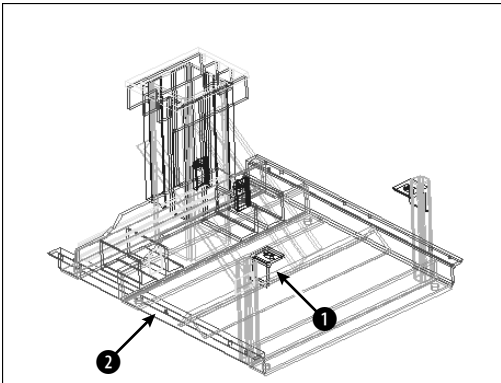

Figure 28-16: The DWF file as seen in Autodesk DWF Viewer.
2. Autodesk DWF Viewer opens automatically and displays the DWF file created in the previous Step-by-Step exercise. From the List tab in the left pane of the Autodesk DWF Viewer, choose the second sheet, labeled (2)ab28-01-Iso (11x8.5 in), as shown in Figure 28-16.
- 3. Press Ctrl and click **1** in Figure 28-16. The text shown in Figure 28-17 opens in a new Internet Explorer window. (You may have to minimize Autodesk DWF Viewer to see the text.) This comes from an Excel spreadsheet saved in text format.
- 5. Press Ctrl and click **2** in Figure 28-16. You see the horizontal angle in a new Internet Explorer window.